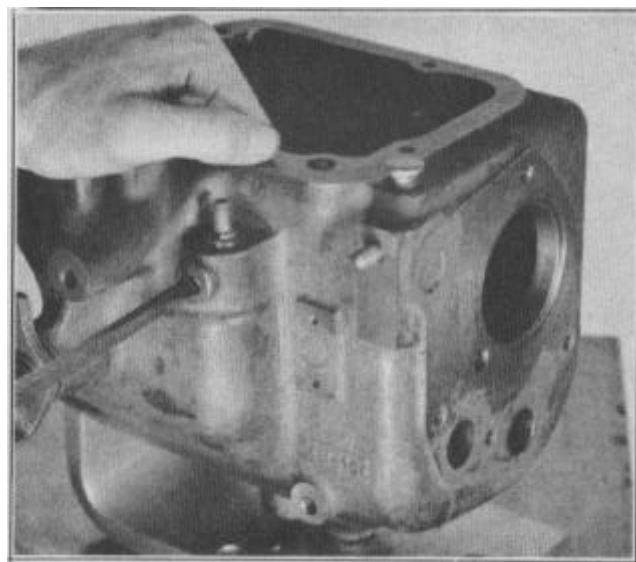

FIGURE 14
22. Remove shift selector shaft set screw, Figure 14.